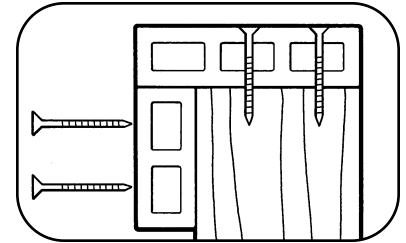

Fig. 39
- Place one Side Rail perpendicular to the Top Rail at each Rail section, making sure that the top of the Side Rail is flush with the side of the Top Rail (Fig. 39).
- Pre-drill and place two 2-1/2" stainless steel or galvanized deck screws 1" from the end of each Side Rail and fasten into each 4x4 post (Fig. 39).